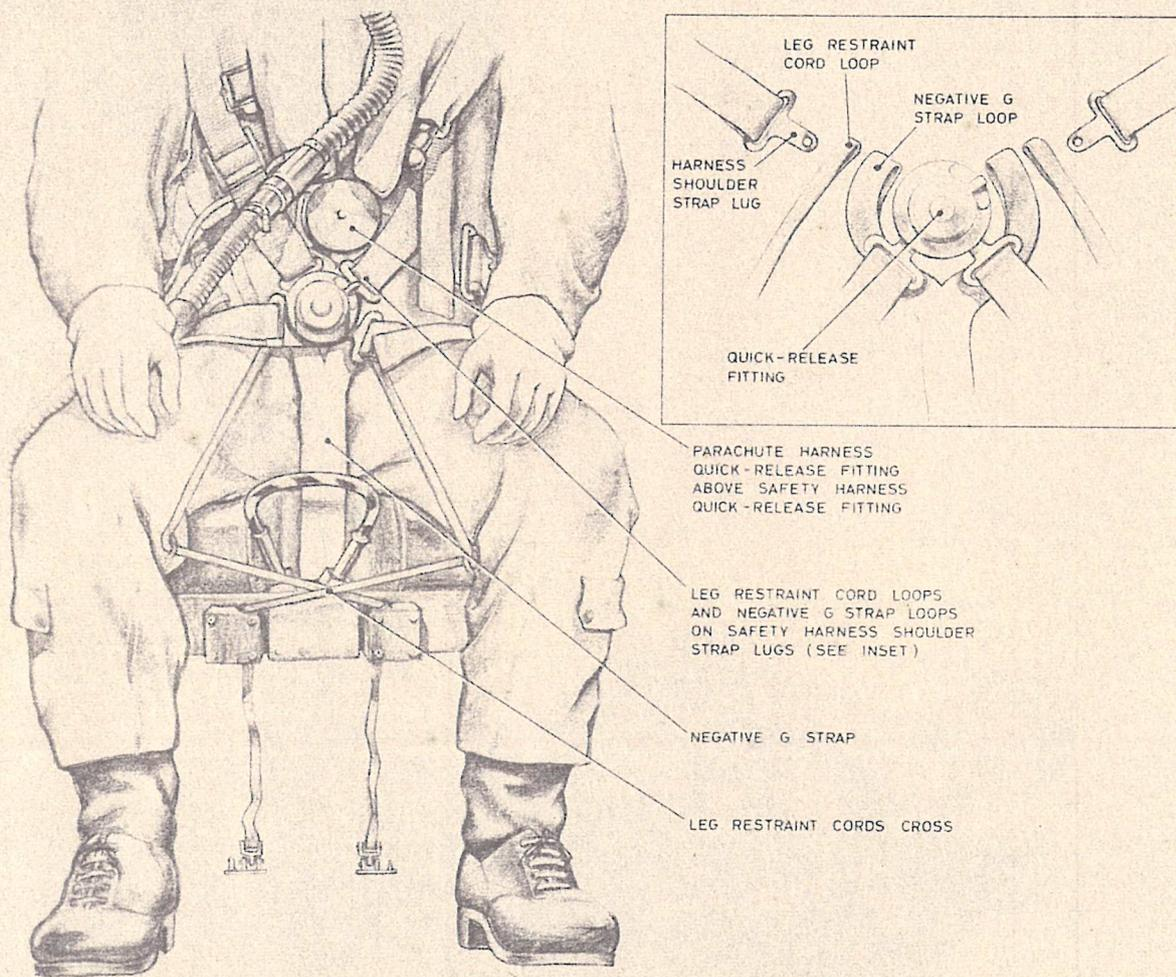

Fig. 4. Arrangement of leg restraint cords (inset: Assembly to quick-release fitting)
26. The strapping-in procedure is as follows; refer to fig. 4 to 6 for detail as necessary:—
(a) Pass the cord emerging from the snubbing unit behind the left leg through the garter ring on the right leg and UNDER the safety harness lap strap. Insert the lug of the safety harness right shoulder strap through the loop at the end of the leg restraint cord and also through the loop at the end of the right branch of the negative-G restraint strap. Secure the lug in the quick-release fitting (see inset of fig. 4).